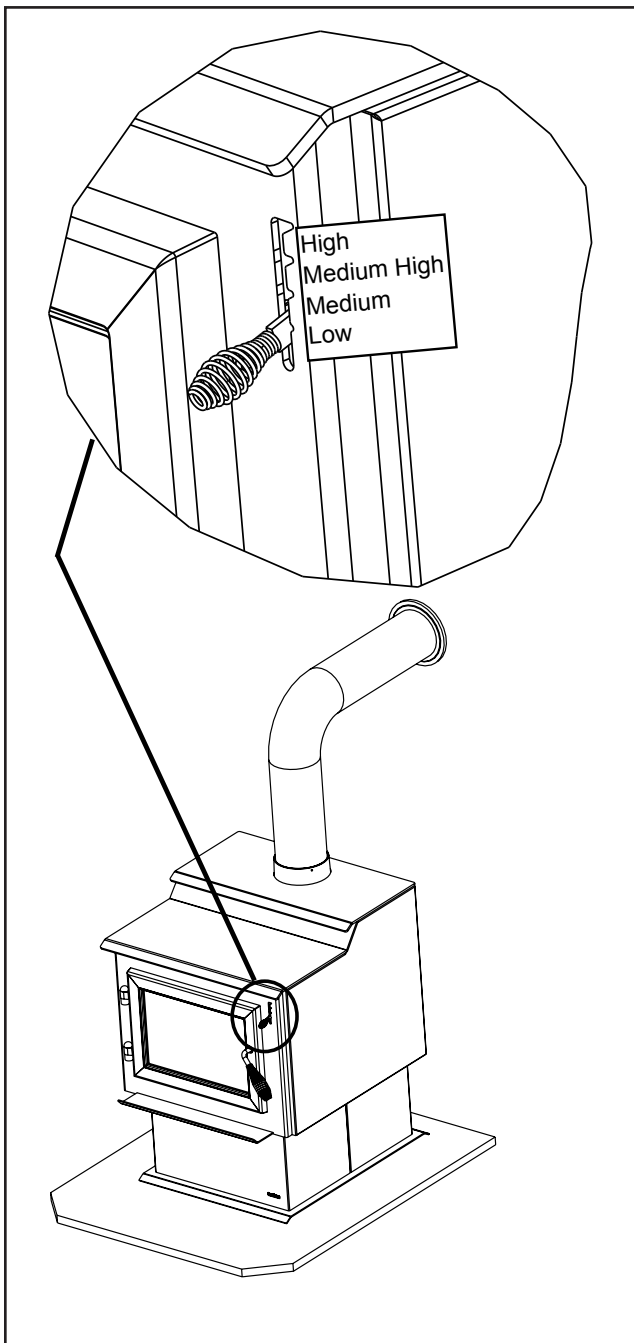

Figure 10.1 - Burn Rate Air Control
The air control located at the upper right hand corner is used to adjust for burn rates. This is called the Burn Rate Air Control. **Figure 10.1 on page 10.**
- It is best to open the Burn Rate Air Control **before reloading**. This livens up the coalbed and reduces excessive emissions (opacity/smoke). **Figure 10.1 on page 10.**
1. Follow the instructions below for each burn rate for the Burn Rate Air Control. **Figure 10.1.**